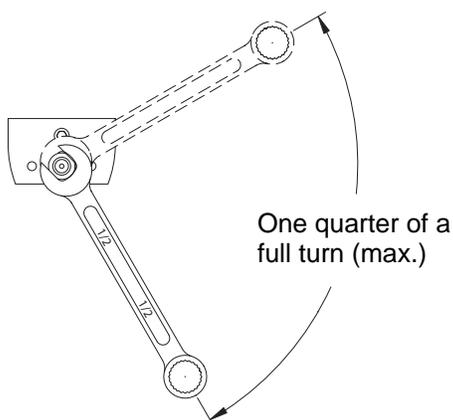

FIG. 8. Tighten Check Valve Retainer
- Place check valve assembly in check valve retainer and thread into side block finger tight. Use a 1/2 in. wrench to tighten retainer 1/4 turn and **no more**. See FIG. 8.